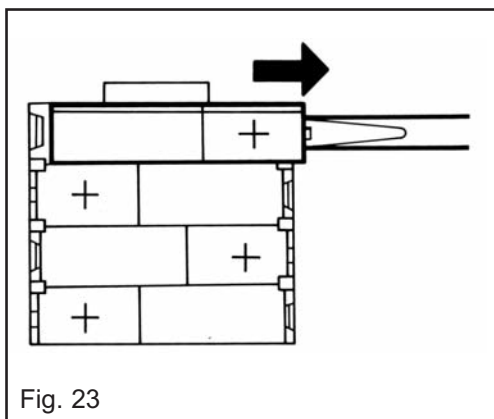

Fig. 23
- Carefully lever out the batteries commencing with the bottom one first pushing and pulling out on the **positive (+) end only** (Fig. 23).